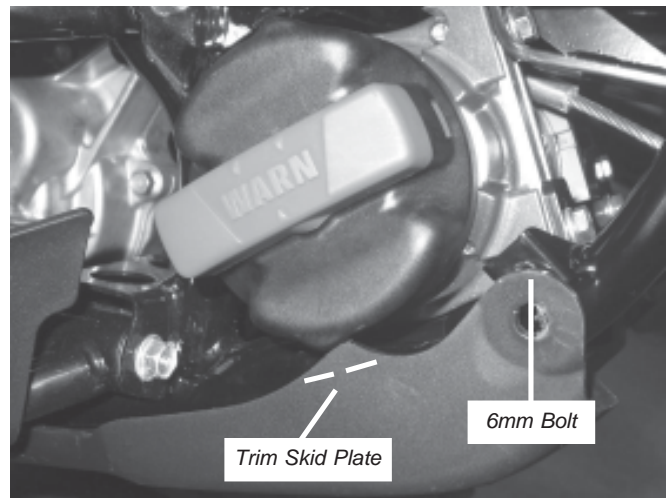

Figure 19 Skid Plate Trim Location
18. Trim the plastic skid plate for winch clutch dial clearance, figure 19. Skid plate should not touch the dial when the 6mm mount bolt is installed.